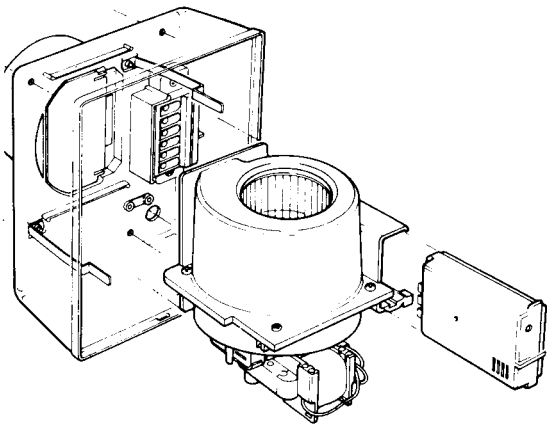

Fig. 3. Electronic control module and Fan/Motor assembly.
b) Separate the two halves of the unit by removing the screws (2 off) on the black half of the unit. Detach control module from slider and release the two internal clips. Then remove the fan unit. See Fig. 3.
g) Fit the control module into the slider. NB. Ensure that the control Module is fully engaged with socket. See Fig. 3.